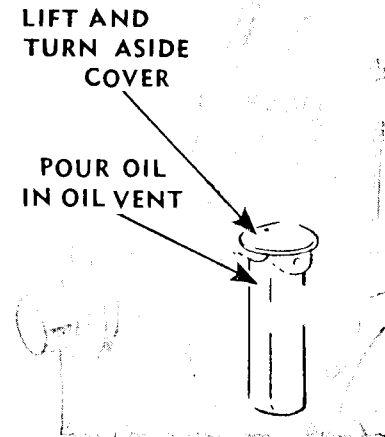
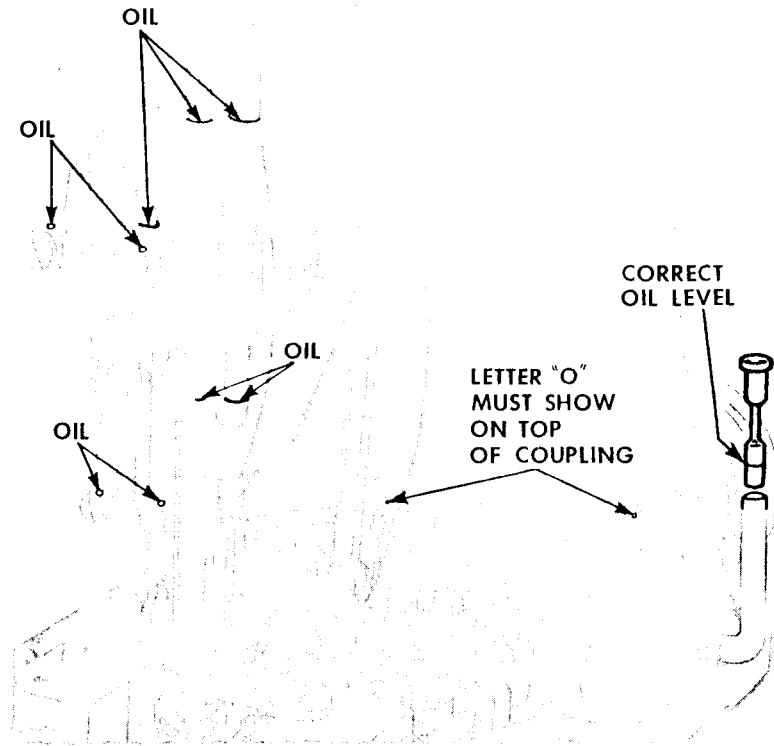

Fig. 2.
Fig. 6. Showing Position of Oil Couplings
CAUTION:—The cover over the oil vent in **Fig. 2**, must be kept closed at all times, except when oiling.
NOTE:—The letter "o" marked on the front and rear couplings, see Fig. 6, must always be at the top, to insure that the oil spoon, attached to inner end of each coupling, is open-side up to receive oil.
IMPORTANT:—After oil has been applied to all wicks, oil holes and places where parts are in movable contact, as instructed in **Figs. 2 to 6**, run the machine at a moderate speed for five minutes. Stop the machine. Let it stand idle for a few minutes. Check oil level in reservoir. If necessary, add sufficient oil to bring it to level indicated in **Fig. 6**, on gauge.
3. Check oil level in reservoir and add oil through oil vent, when necessary, as instructed in **Figs. 2 and 3**, page 3.